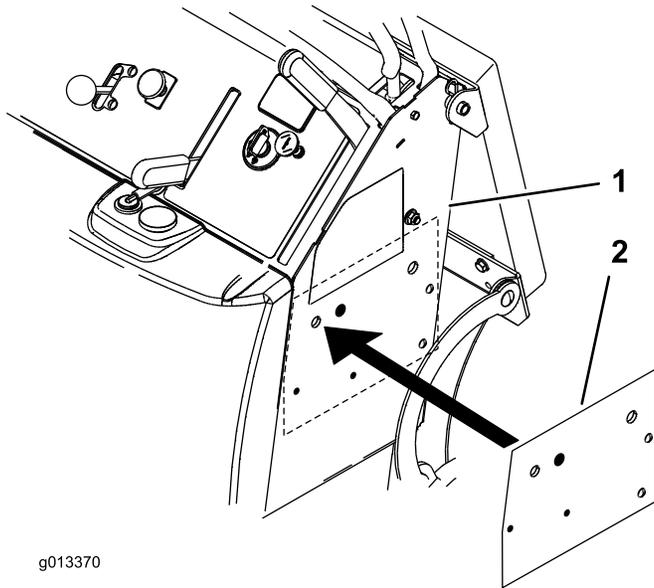

Figure 4
- 4. Locate the two existing holes and place the template on the left side of the machine (Figure 4).
- 5. Mark the location for the holes. The small holes do not need to be drilled if the manual tube is mounted horizontal to the ground (Figure 4).